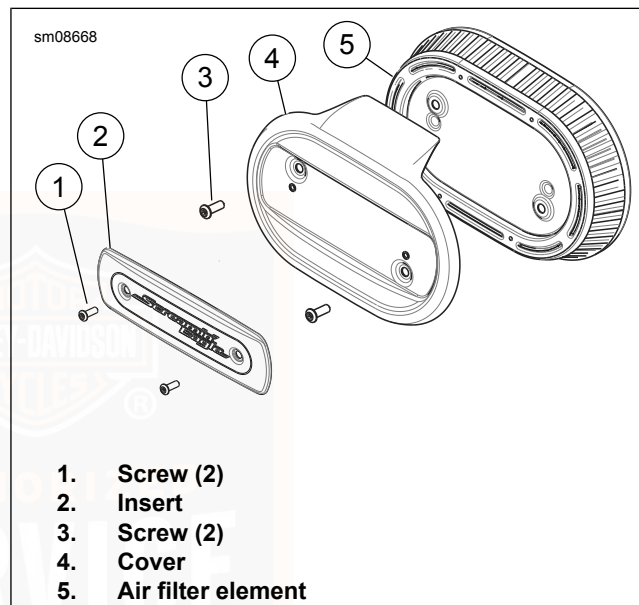

Figure 70. Air Filter Element
See Figure 70. In wet or rainy conditions, because the filter element is exposed, water can enter the engine. When parked, water can cause internal engine corrosion or damage. When running, water can cause the engine to misfire.
1. See Figure 70. Remove two screws (1). Remove trim insert (2).
2. Remove screws (3).
3. Remove air cleaner cover (4) and air filter element (5).
1. See Figure 70. Apply LOCTITE 243 MEDIUM STRENGTH THREADLOCKER AND SEALANT (blue) to screws (3).
2. Install air filter element (5) and cover (4) with screws (3).